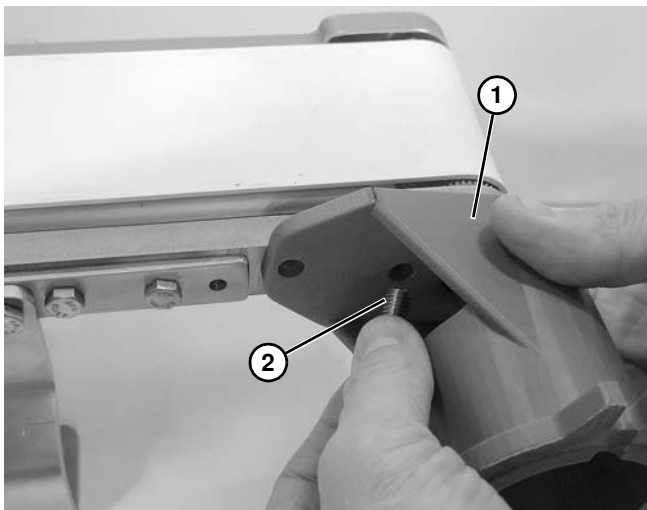
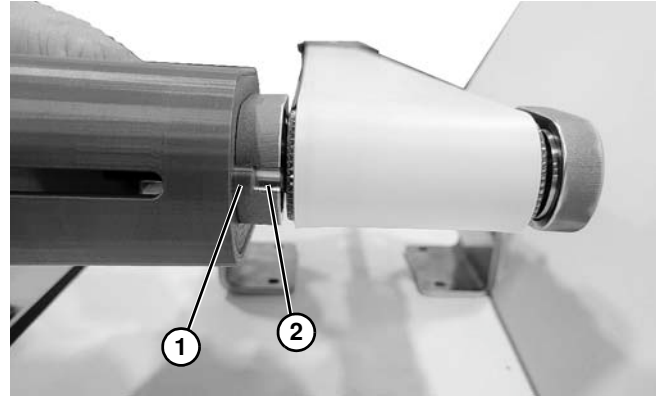

Figure 10
Figure 11
1. Install mounting bracket (**Figure 10, item 1**) onto drive end of conveyor with screw (**Figure 10, item 2**), making sure the stud (**Figure 11, item 1**) on the back of the mounting bracket seats into the notch in the tail plate (**Figure 11, item 2**).